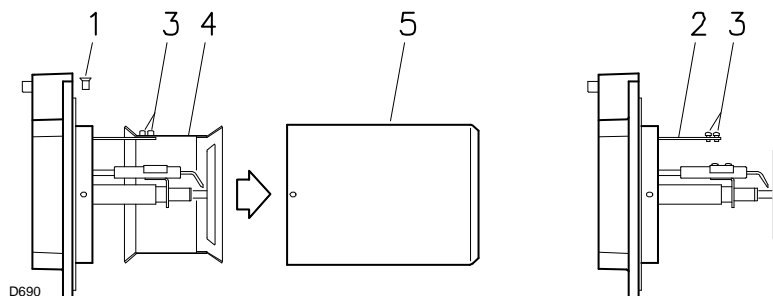

Fig. 9
- unscrew the screws 1)(Fig. 9) and disassemble the blast tube 5);